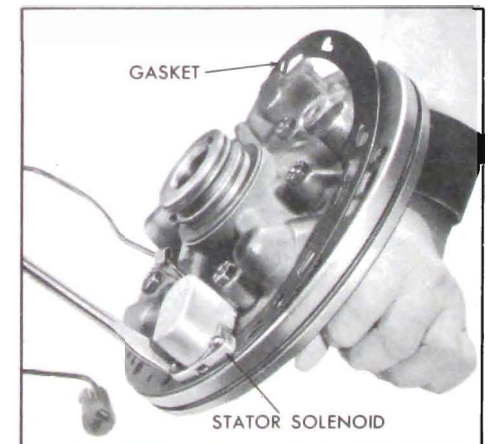

Figure 5-583
1. Remove stator solenoid attaching bolts and solenoid and pump to case gasket. See Figure 5-583.